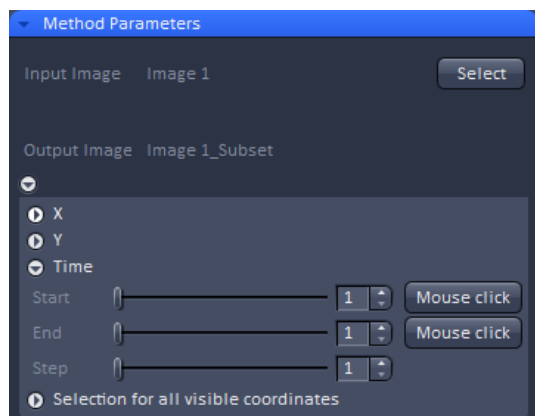

Fig. 397 Methods Parameter of the Copy Subset Processing tool
- Generate reference image. Using the Processing tool **Copy** select the duplicate time series in the submenu **Subset**. Using **Time** select your reference image, for example the first image or the center image, by choosing for the **Start** and **End** value the same number (Fig. 397). Press **Apply** to extract that image from the time series.